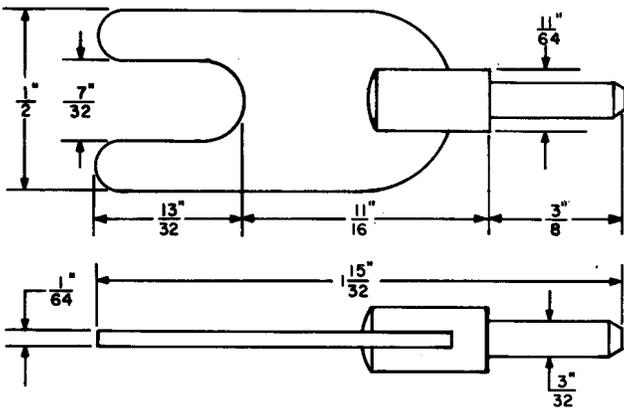

Fig. 3—364 Spade Terminal Tool
2.03 364: The 364 spade terminal tool (Fig. 3) is used in conjunction with a 360-type tool for general test purposes.